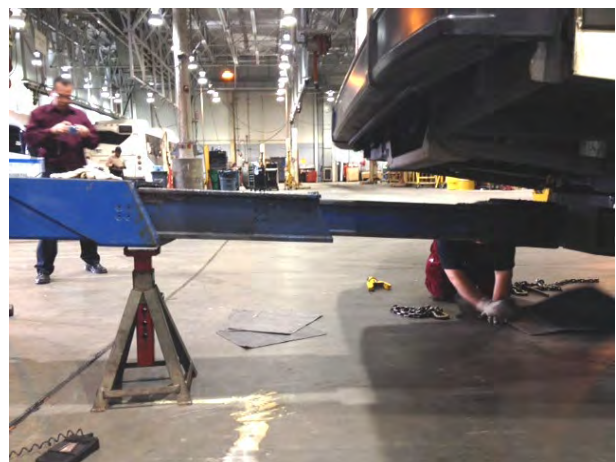

Figure 70
9. Install a jack stand under the stinger arm for support and safety purposes and then lower the stinger arm so it rests on the jack stand (Figure 70). The tow cans or blocks can be removed from under the drive axle wheels.